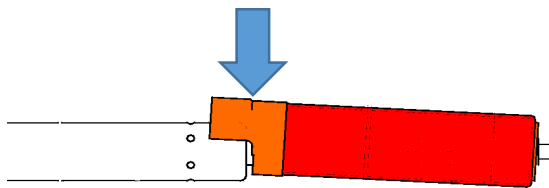

Fig. 16. Direction and locking tube unlocking point.
- a. press as shown in Fig. 16 to unlock the locking and allow the gas spring body to enter the locking tube;